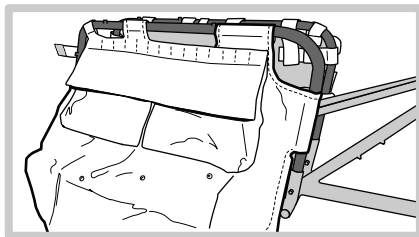

Figure 7
4. Slide the rails into the frame with the bag loosely attached. Don't tighten anything down yet (Figure 7).